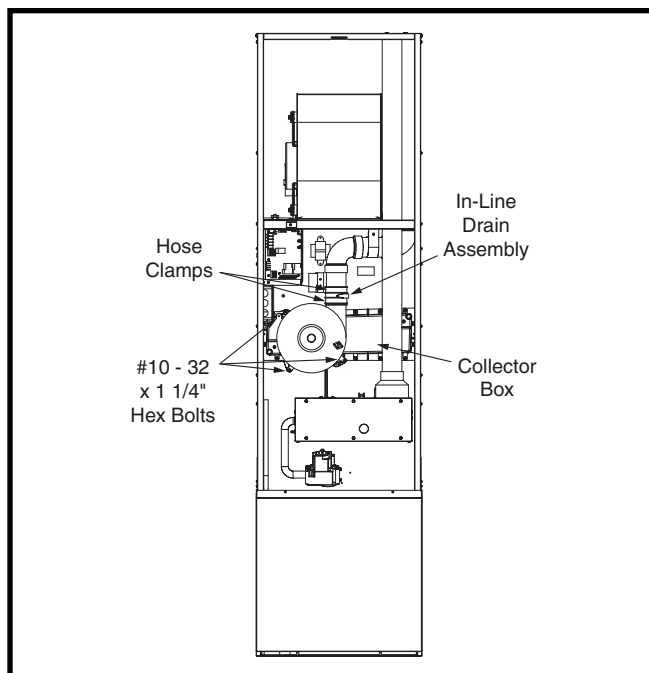

Figure 1.
1. Loosen the bottom hose clamp on the in-line drain assembly connecting the inducer to the vent pipe. See Figure 1.